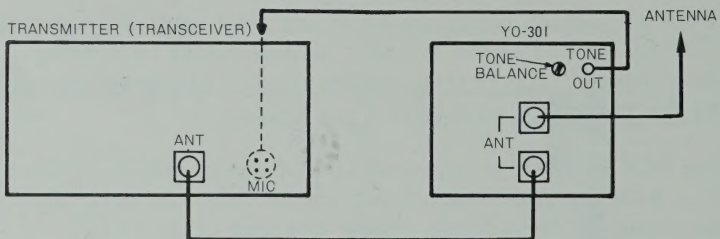

Figure 3
- (3) Push the POWER switch of the monitorscope and adjust the controls as described in the initial adjustment procedure.
- (4) Turn on the transmitter and adjust the H. GAIN, SWEEP FREQ and SWEEP FINE controls for the desired pattern display.
- (5) Internal tone generator signal may be used for SSB or AM transmitter with the shielded cable. Use either 1500 ~~K~~Hz or 1900 ~~K~~Hz for signal tone test. In SSB transmission, set the TONE SELECTOR switch to TWO TONE position. Refer to Figure 3
- (6) Refer to the patterns on Page10 for the evaluation of the transmitted signal.